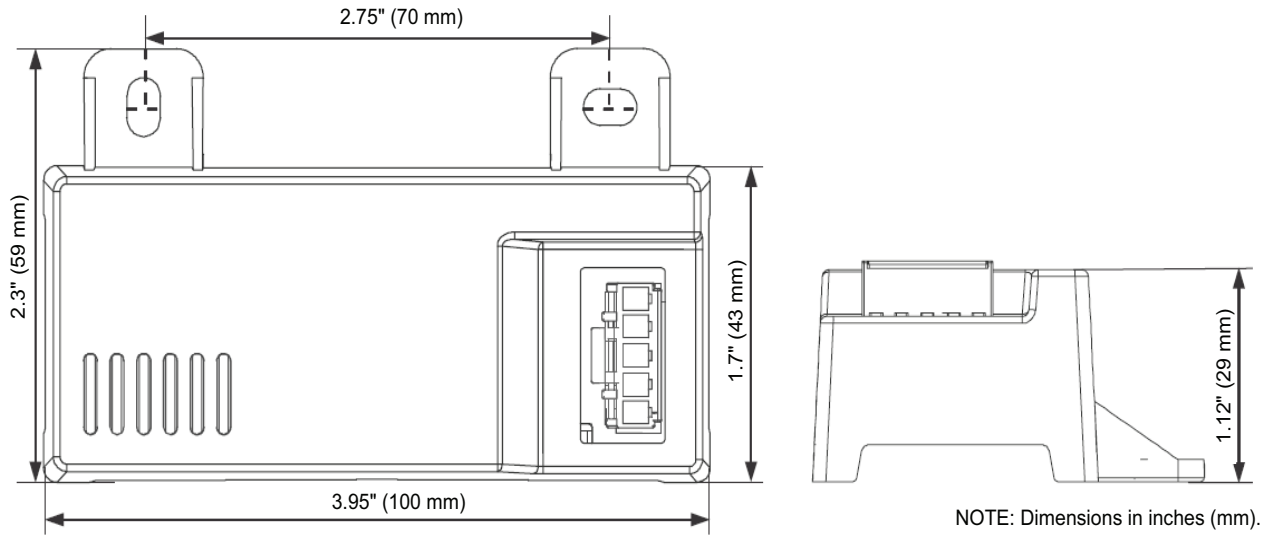
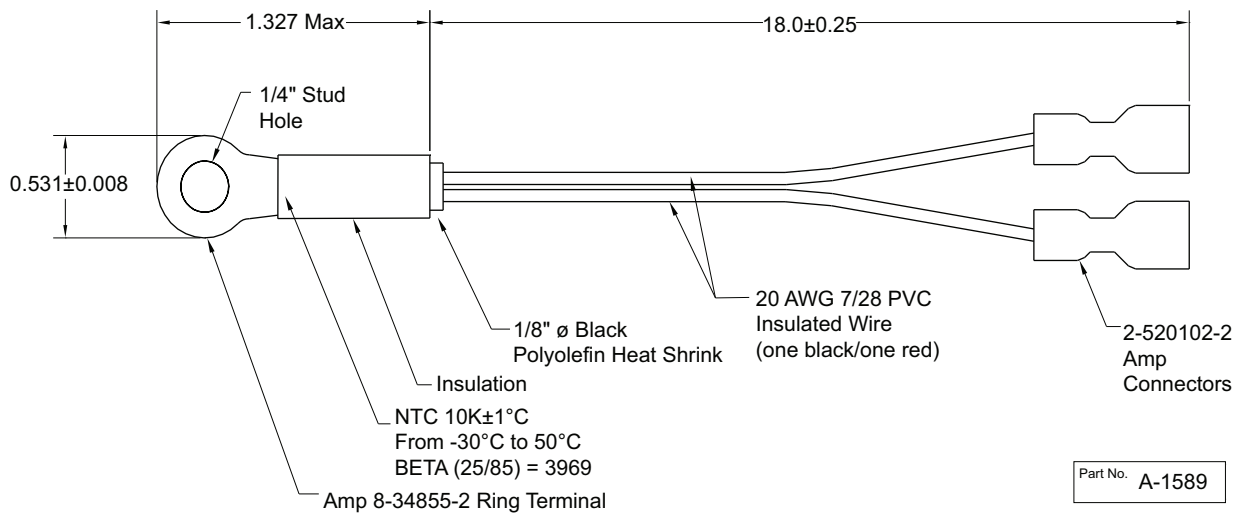
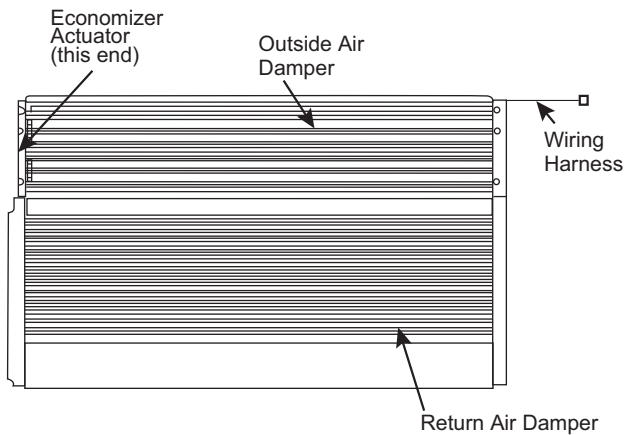

Fig. 86 — HH57LW001 Dimensional, Connection and Switching Information
Fig. 87 — HH79NZ039 Dry Bulb and Mixed Air Sensor Wiring
Fig. 88 — EconomizerONE System Component Locations
When using the HH57LW001 enthalpy sensor (see Fig. 86) for outside air changeover, the existing HH79NZ039 dry bulb sensor (see Fig. 87) must be removed. The enthalpy sensor will be mounted in the same location as the dry bulb sensor (see Fig. 88). When the enthalpy sensor's OA (Outside Air) temperature, enthalpy, and dew point are below their respective set points, outside air can be used for free cooling. When any of these are above their set point, free cooling will not be available. Enthalpy set points are configurable and create an enthalpy boundary according to the user's input. For additional details, see Fig. 89-90 and Table 43.
The optional enthalpy control sensor (P/N: HH57LW001) communicates with the POL224 economizer controller using the 5-wire harness, 48TC005213. The HH57LW001 sensor can be used as a single outside air enthalpy, a differential return enthalpy, or a differential return temperature sensor. Refer to the base unit control wiring diagrams found earlier in this book to wire the HH57LW001 enthalpy sensor for each option. See Fig. 86 and Table 45 on page 80 to locate the wiring terminals for each enthalpy control sensor.
Economizers are shipped standard with an HH79NZ039 outside air dry bulb sensor (refer to Fig. 87). System default setting (high temp limit) is 63°F (17°C) and has a range of 48°F to 80°F (9°C to 27°C). Sensor is factory installed on economizer.
If installing the optional HH57LW001 enthalpy sensor, the HH79NZ039 dry bulb outside air sensor must first be removed. Wire sensor to harness 48TC005213 and the (5) wires from the harness to the EconomizerONE harness in the return air chamber. Harness 48TC005213 has a 5-pin plug that connects directly to the HH57LW001 enthalpy sensor. Refer to the base unit control wiring diagrams earlier in this book for wiring connections. Refer to Fig. 86 and see Table 45.